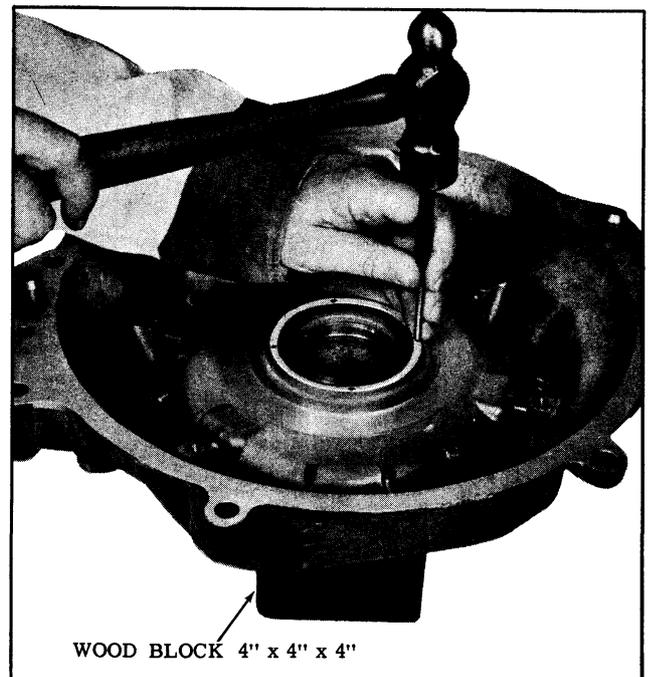

Fig. 3-130 Staking Housing to Retain Seal
4. Support the center of the flywheel housing on a wood block (approximately 4" x 4" x 4") and stake seal into place with a center punch. (See Fig. 3-130)